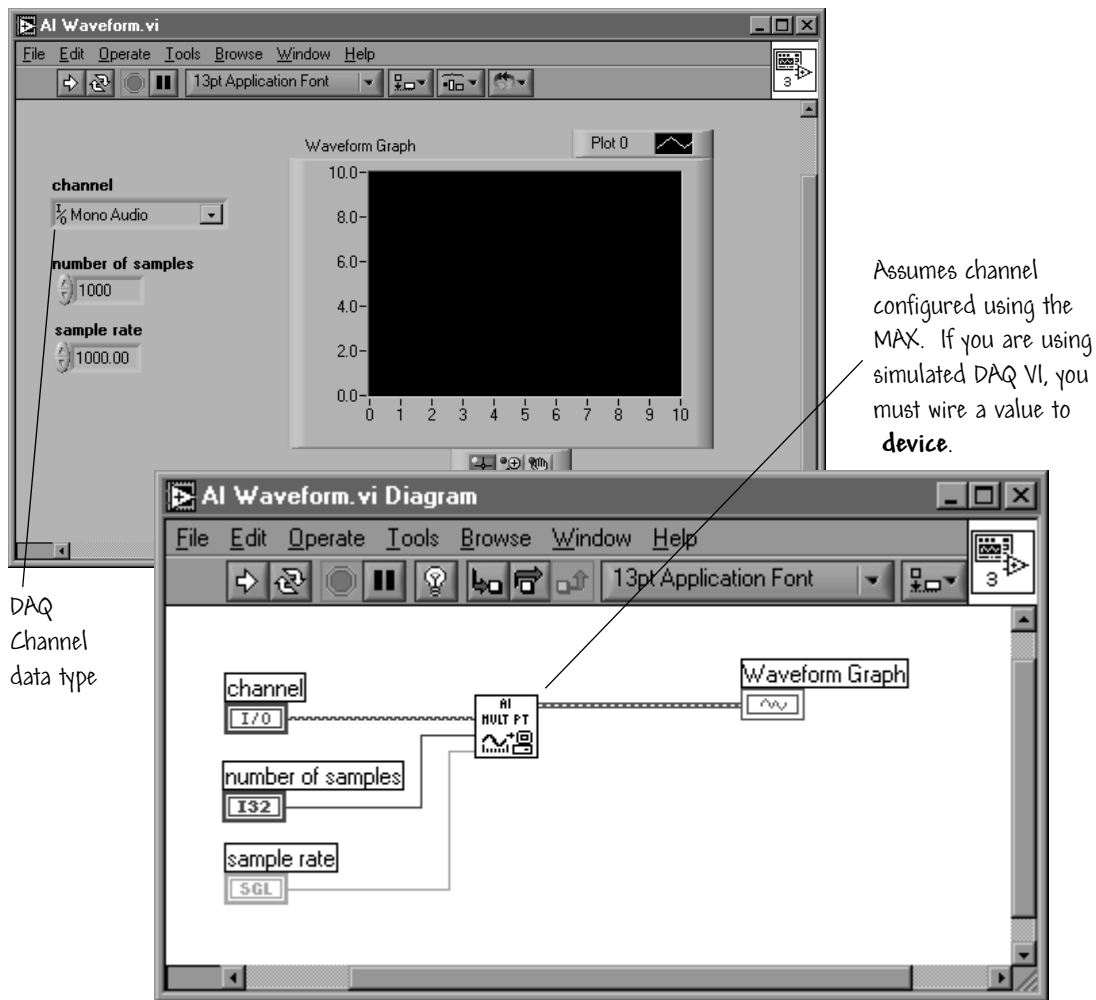

FIGURE 8.58
Open a new VI and build the front panel shown in Figure 8.58. The input variable **channel** is labeled **MonoAudio**. The input **number of samples** control specifies the number of points to sample. The input **sample rate** specifies the sampling rate. When the VI is up and running, you can vary these input parameters and observe the effects on the waveform graph. After building the front panel, switch to the block diagram and wire the **AI Acquire Waveform VI** using Figure 8.58 as a guide.
*If you are having problems with your VI, you can find a working version of the VI shown in Figure 8.58 in **Chapter 8** of the **Learning** directory. The VI is called **AI Waveform.vi**. An example of a VI that acquires multiple waveforms from two analog channels is called **AI Waveforms.vi** and can be found in the **Chapter 8** folder in the **Learning** directory. If you use this VI, you will need to configure another analog input channel in the MAX.*